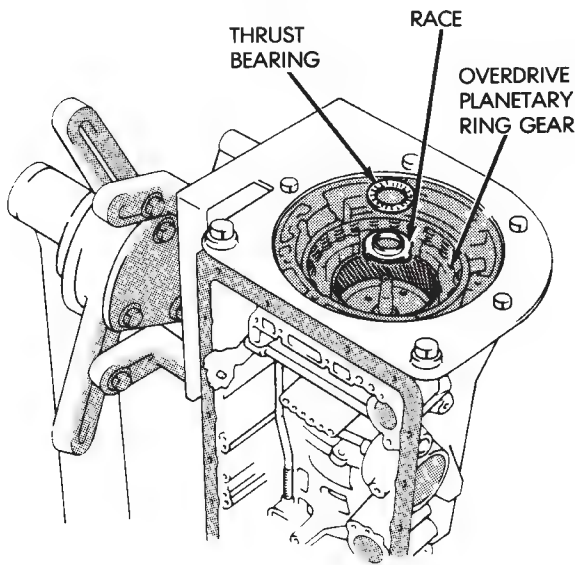

Fig. 18 Removing Bearing, Race And Planetary Ring Gear
(26) Remove thrust bearing, race and overdrive planetary ring gear (Fig. 18).